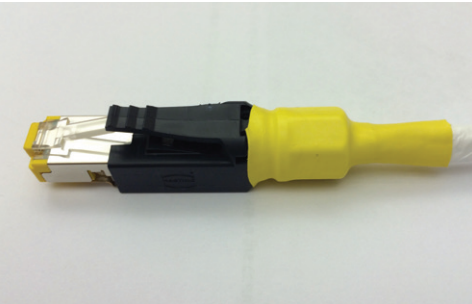

Figure 18: Shrinking sleeving on retaining nut
16. Slide the yellow RNF-100 heat-shrink sleeving up and over the back of the retaining nut. Then, using a heat gun, shrink the sleeving into place (Figure 18).